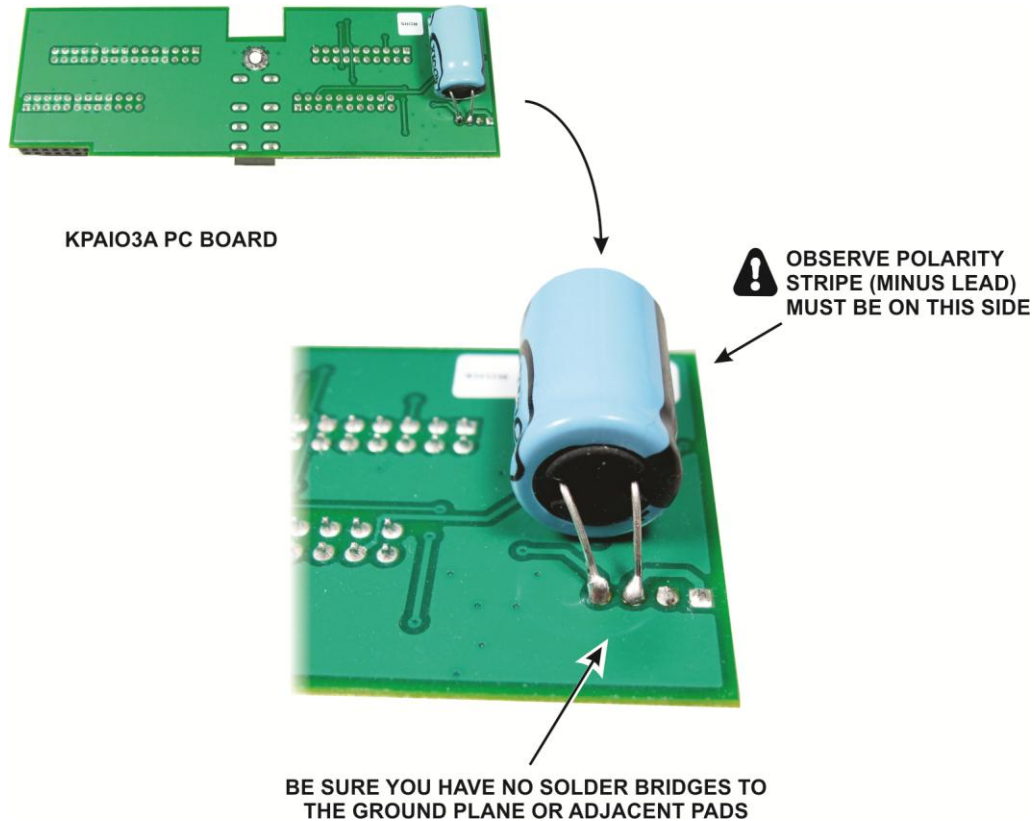

Figure 6. Soldering the Capacitor on the KPAIO3 Module.
- ❑ Solder the capacitor on the back of the KPAIO3 module board as shown in Figure 6.